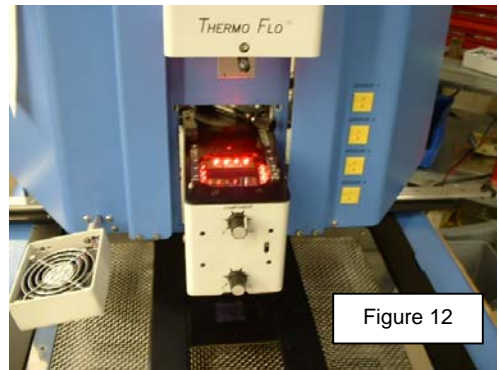

Figure 12
- viii. The camera will automatically extend out. (Figure 12) and the reflow head will move to the focus position.